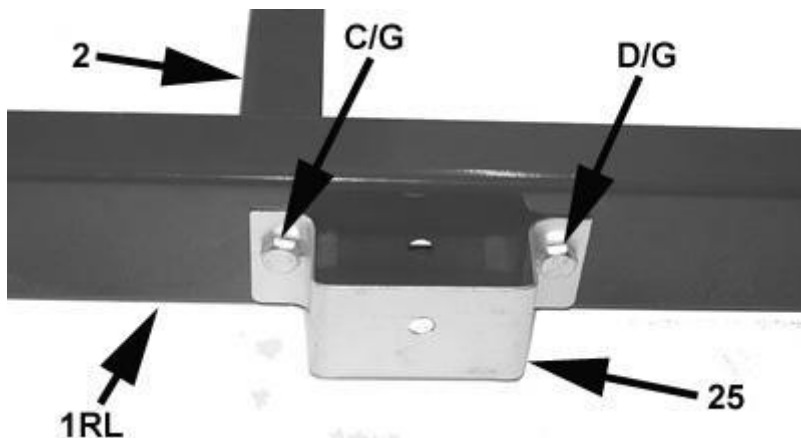

Figure 3-3
3. Position stake pocket (25) and connect the center cross member (2) to left frame rail (1RL) with M10 x 20 bolt (D), M10 x 30 bolt (C) and M10 nylon lock nuts (G). The center cross member (2) goes in the forward of the three holes on left frame rail. See figure 3-3.